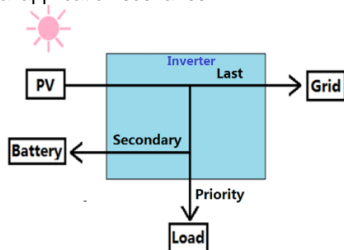

Figure1-5
1. If PV is sufficient, PV supply power to the load priority, then charge battery, feeding into grid with surplus power. (Figure1-5)